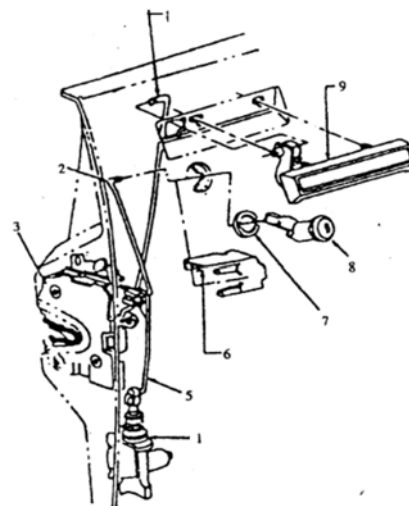

Figure 6.4-13 Central door lock linkage control mechanism
2. For structure of central door lock system, see Figure 6.4-13.